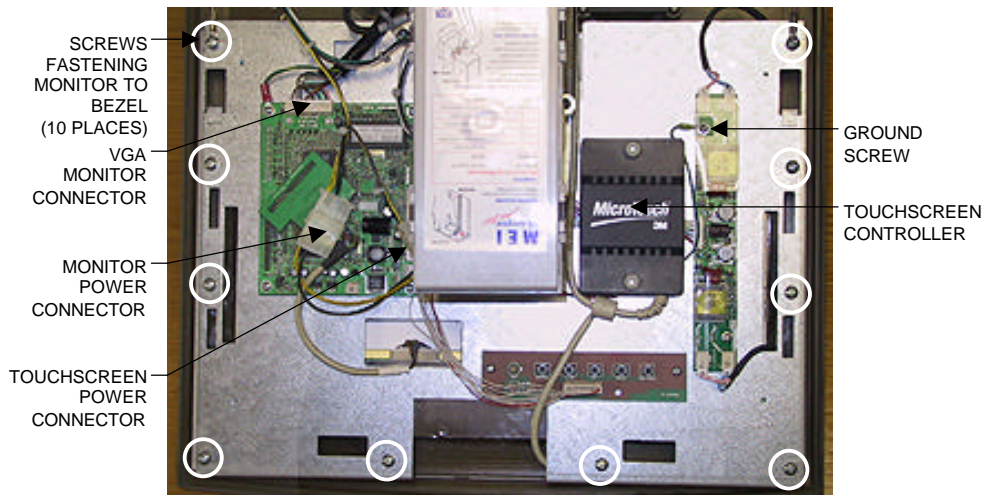

FIGURE 8 - FORCE VIBE - MONITOR REMOVAL
4. Disconnect the VGA monitor cable connector and the screw fastening the cable to the monitor mounting plate, and also disconnect the ground screw. Then disconnect the monitor power connector. See Figure 8.
remove the controller from the mounting screws. Then disconnect the cable from the back of the controller and disconnect the Molex connector (orange and gray wires) running from the touchscreen controller cable to the main power harness. Also disconnect the ground screw. See Figure 8.
6. Using Figure 8, remove the 10 screws fastening the monitor to the bezel (2 screws also fasten strain relief cords on either side of the CPU) and carefully pull the monitor assembly away from the bezel until you're able to access the touchscreen.
14. Replace the monitor assembly in the bezel, lining up the screw holes in the monitor with the holes in the bezel, then replace the 10 screws. See Figure 8.
15. Reconnect the VGA monitor cable connector and the screw fastening the cable to the monitor mounting plate, and also reconnect the ground screw. Then reconnect the monitor power connector. See Figure 8.